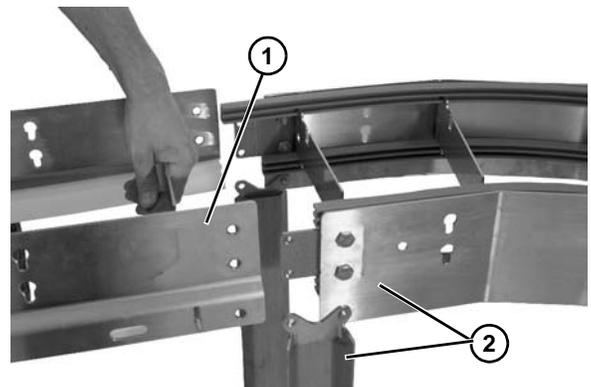

Figure 51
4. Lift up on straight section (**Figure 51, item 1**) and remove from curve section and conveyor stand (**Figure 51, item 2**). Be sure to support free end of straight section once removed.